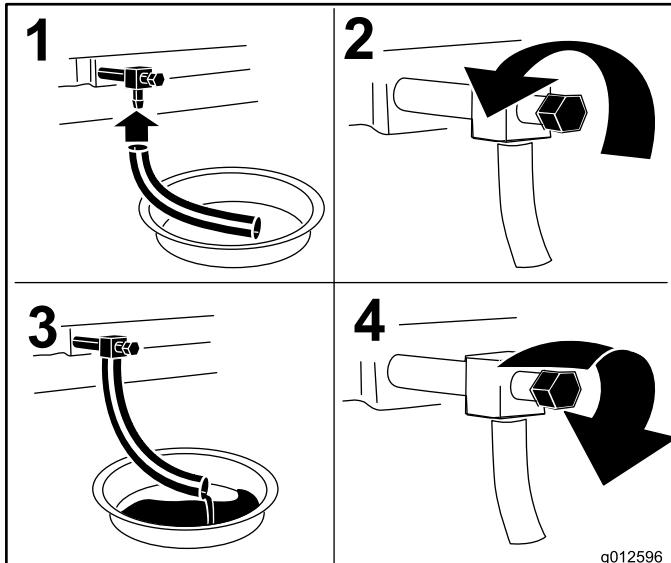

Figure 43
3. Stop the engine, remove the key, and wait for all moving parts to stop before leaving the operating position (Figure 43).
4. Change the engine oil as shown in Figure 43.